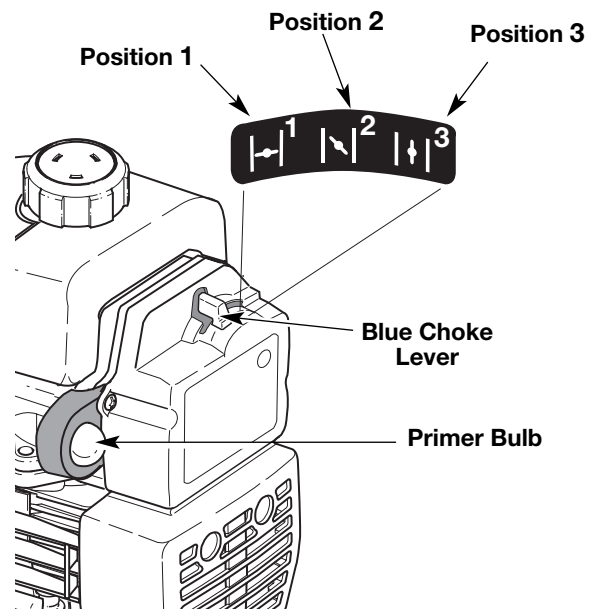

Fig. 7
3. Fully press and release the primer bulb 10 times, slowly. Some amount of fuel should be visible in the primer bulb and fuel lines (Fig. 7). If you can't see fuel in the bulb, press and release the bulb as many times as it takes before you can see fuel in it.
4. Place the blue choke lever in Position 1 (Fig. 7).
9. Once the engine is warmed up, place the blue choke lever in **Position 3** (Fig. 7). The unit is ready for use.
IF... The engine hesitates, return choke lever to **Position 2** (Fig. 7) and continue warm up.